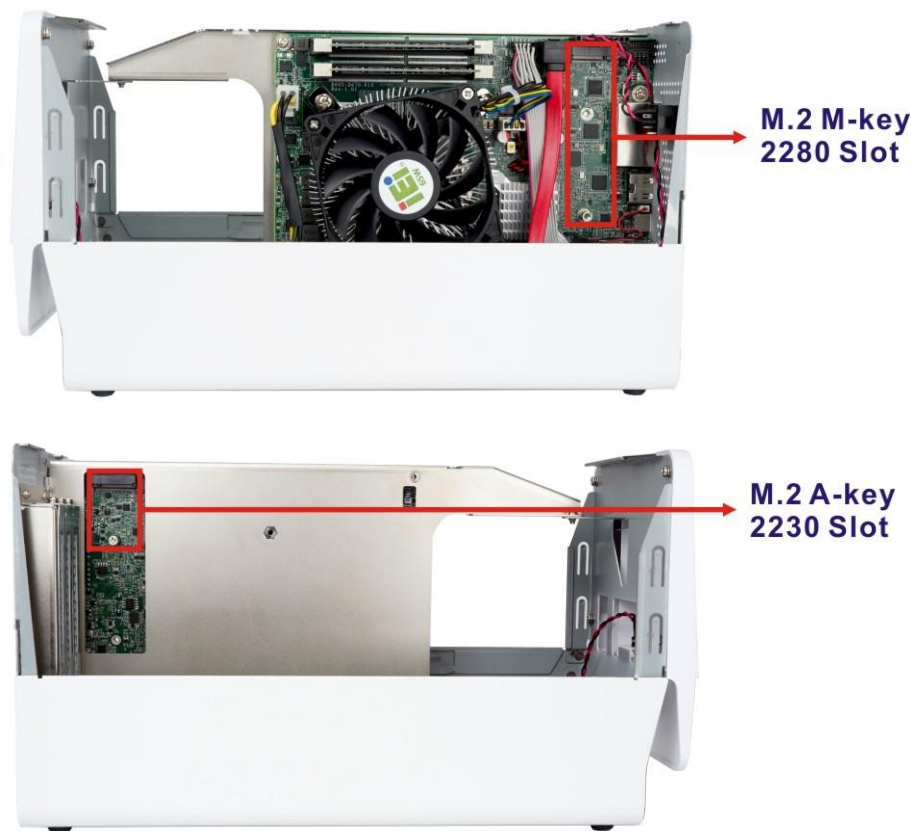

Figure 3-6: M.2 Slot Locations
- Step 2:** Locate the M.2 slots on the motherboard (Figure 3-6). The M.2 M-key slot is on the front side, and the M.2 A-key slot is on the solder side.